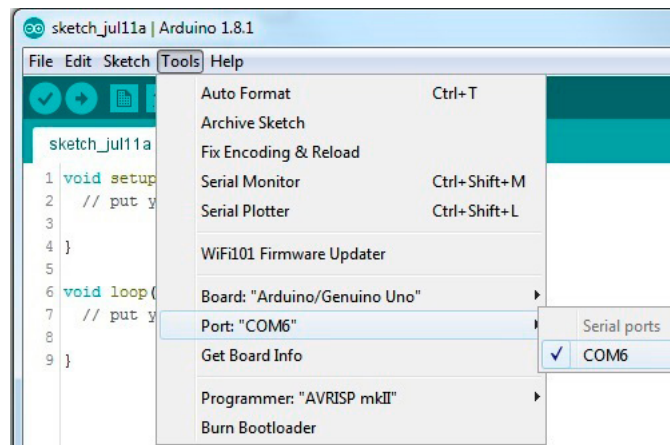

Figure 6. Selecting Correct COM
4. Select the correct COM port to allow communication to DC2026 through USB. Under the **Tools** menu, select **Port** → Select the highest number **COMxx** with the ✓ check mark symbol. There may be more than one option; DC2026 is usually the highest COM port number. The PC screenshots (Figure 6) used in this example show the DC2026 connected to COM6.